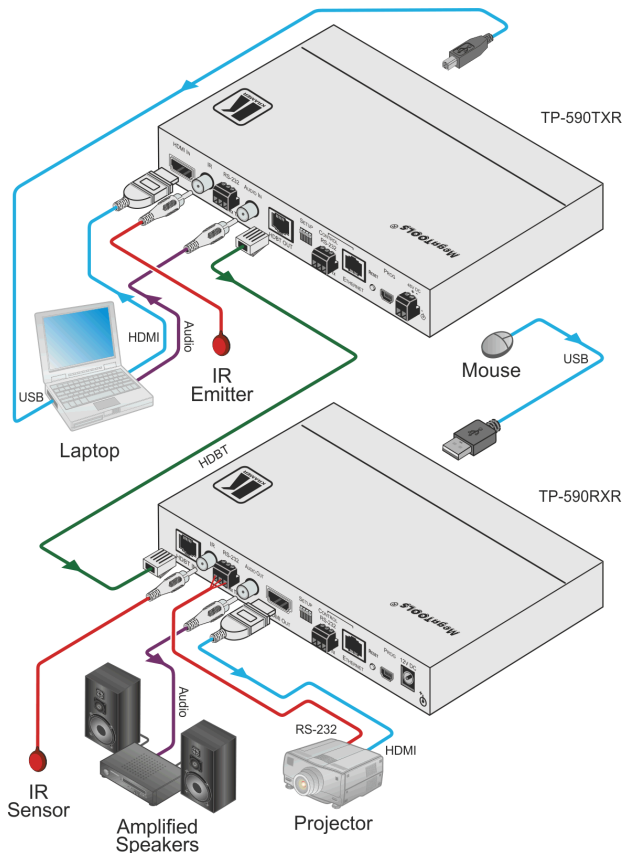

Figure 3: Connecting the TP-590Txr and TP-590Rxr
You can use the **TP-590Txr HDMI Line Transmitter** and a compatible receiver, (for example, the **TP-590Rxr**) to configure an HDMI transmitter/receiver system, as shown in the example in Figure 3.
To connect the TP-590Txr HDMI Line Transmitter as shown in Figure 3:
12. If power is not supplied by the transmitter via PoE (see Section 3.2), connect the supplied power adapter to the power socket and plug the adapter into the mains electricity (not shown in Figure 3).